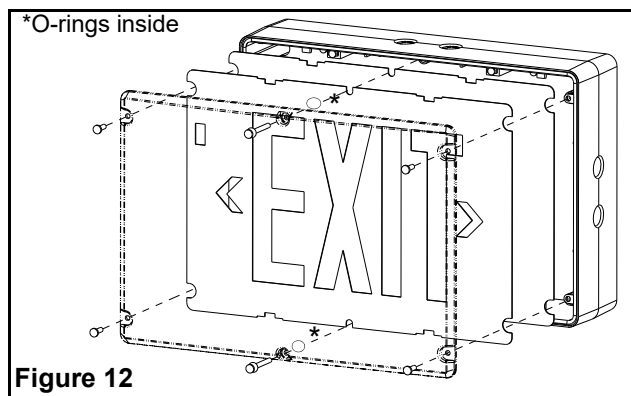

Figure 12
6. Install the lens by using the 6 tamper-proof screws. The o-rings has to be installed on the screw between the lens-legend and the frame as shown in figure 12.